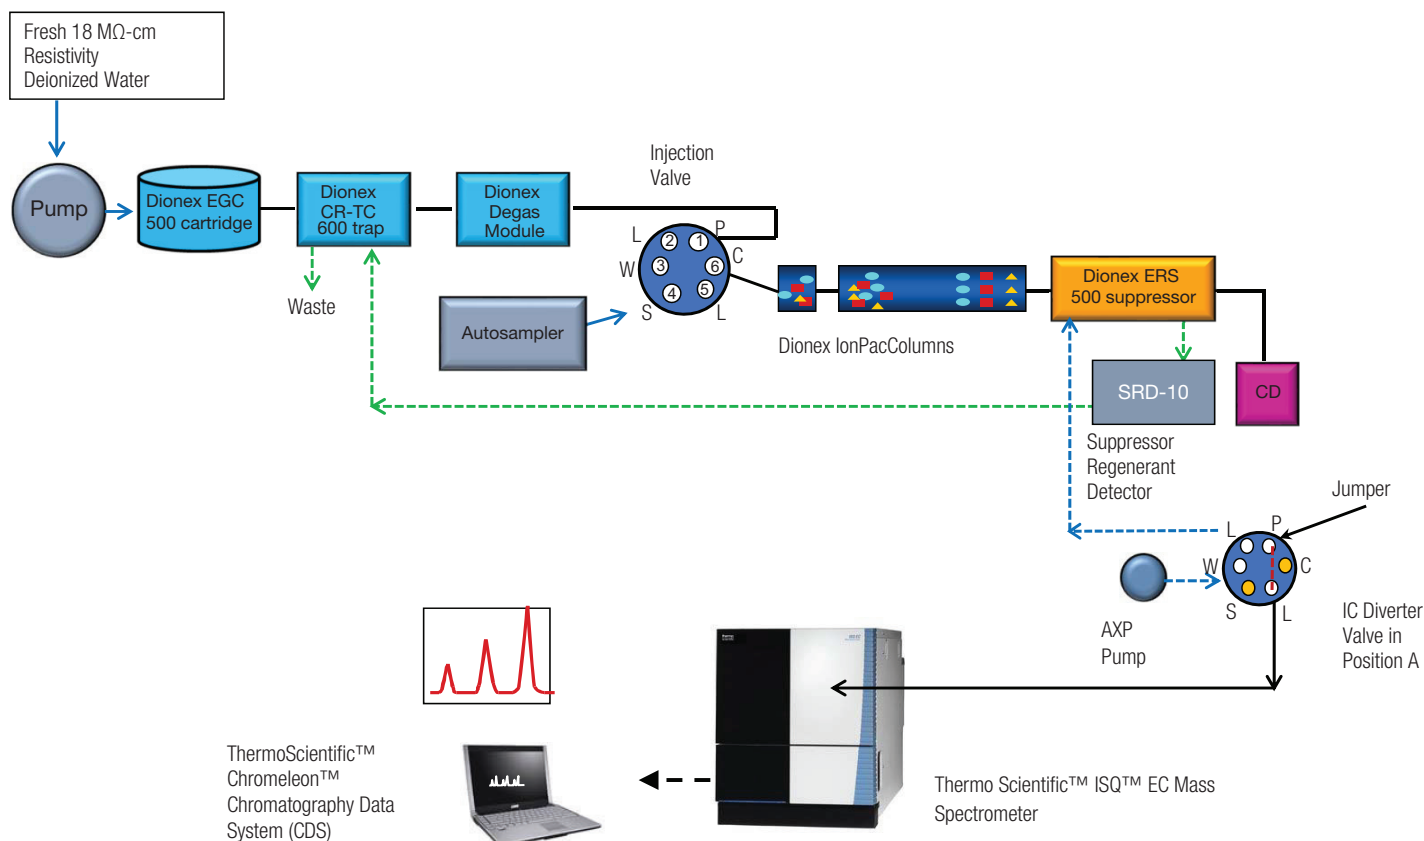

Figure 1. Flow diagram for IC-MS with diverter valve in “A” position
To set up this system, first connect the Dionex AS-AP autosampler and the Dionex Integrion HPIC system according to Figure 1 and TN175 - *Configuring the Dionex Integrion HPIC System for High-Pressure Reagent-Free Ion Chromatography*.1 A small piece of red PEEK tubing (< 5 in. of 0.005 in. i.d.) called a “jumper” in Figure 1 is installed in the IC Diverter valve connecting Ports 1 (L) to 3 (C). Install the AXP drivers included with the pump on the IC-MS instrument computer as described in the AXP pump operator’s manual.2 The AXP pump provides MS calibrant at 0.05 mL/min flow during MS calibration. To aid in calibration and provide pulse damping, install a Thermo Scientific™ Dionex™ IonPac™ GM-3 gradient mixer (P/N 042126) and two yellow PEEK (0.003 in i.d.) backpressure coils (rated 1000 psi at 0.5 mL/min, P/N 053765) on the pump outlet. Run the AXP pump at 1 mL/min until liquid is flowing at a steady rate through the end of the tubing. It is recommended that the MS and the MS modules (nitrogen generator and the mechanical vacuum pump (foreline vacuum pump)) are not powered on until the IC is fully installed and configured by Chromeleon Instrument Configuration programs. Additionally, nitrogen gas flow is needed before connecting the IC flow to the MS.